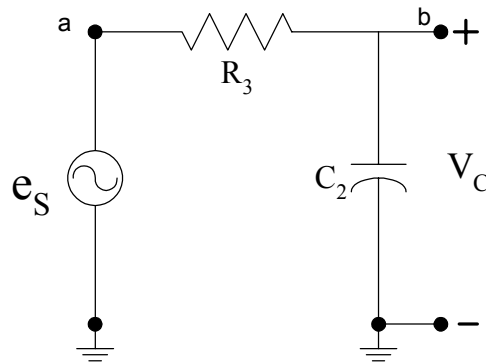

Figure 2
a. In this section of the lab, you will use the function generator to input a square wave of two different frequencies and observe and sketch the output waveform measured across the capacitor. b. A schematic diagram containing the AC voltage source is shown in Figure 2. Build the circuit of Figure 2 on the QUAD board with $R_3 = 1 \text{ k}\Omega$ and $C_2 = 0.1 \text{ }\mu\text{F}$.
b. VIP the circuit in Figure 2. Use a square wave input as the input voltage source with a frequency of 500 Hz and 4 volts pk-pk. Display this signal on Channel 1 of the oscilloscope. Display $v_C(t)$ on Channel 2 of the oscilloscope.
a. Exchange the 470 mH inductor for the capacitor in the circuit in Figure 2. Also change R_3 to $R_4 = 10\text{ k}\Omega$ and reset your frequency of the square wave to 500 Hz. You will be measuring $v_L(t)$.
b. For the circuit in Figure 2 with the frequency set to 500 Hz (graph 1), did the capacitor fully charge when the input voltage was at 4 volts? Explain.
c. For the circuit in Figure 2 with the frequency set to 4 kHz (graph 2), did the capacitor fully charge when the input voltage was at 4 volts? Explain.
d. For the circuit in Figure 2 with the frequency set to 500 Hz (graph 3), did the inductor fully de-energize when the input voltage dropped to 0 volts? Explain.
e. For the circuit in Figure 2 with the frequency set to 8 kHz (graph 4), did the inductor fully de-energize when the input voltage dropped to 0 volts? Explain.